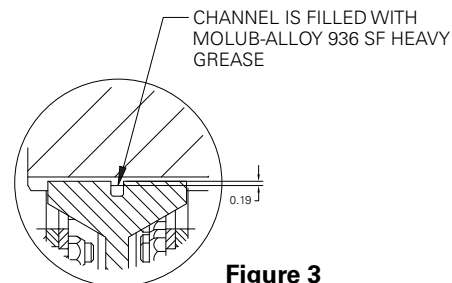

Figure 3
2.2.6 Pre-fill the grease channel in the friction disc splines with MOLUB-ALLOY 936SF Heavy grease or equivalent as shown in Figure 3. Try to maintain the grease level at 1/8" (3mm) below the top of the friction disc splines as shown in Figure 3. For reference, the recommended grease is Eaton Part Number 000153X1182.